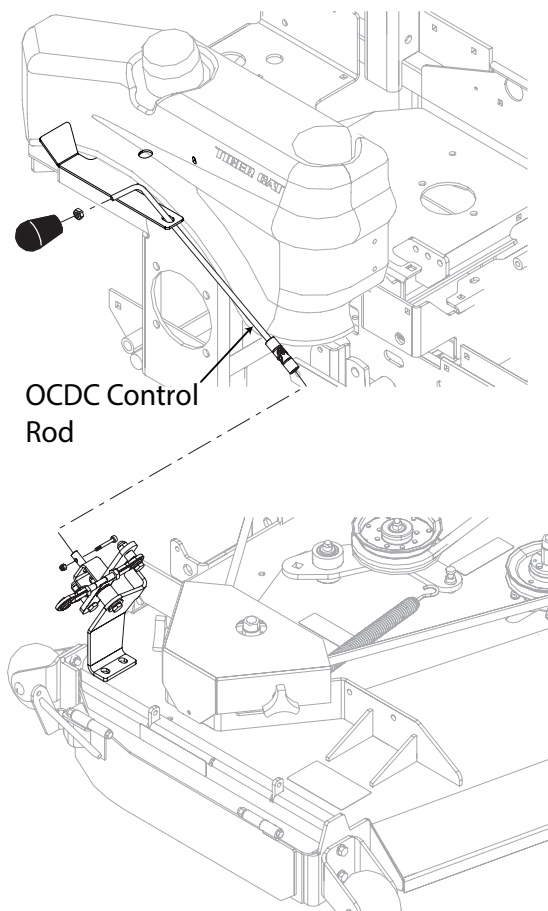

Figure 3-17. OCDC Control Lever Installation
5. Install the OCDC control rod through the handle bracket and attach to the OCDC pivot bracket. Secure the OCDC control rod to the pivot bracket using one (1) #8-32 x 1-1/4" screw and one (1) #8-32 elastic stop nut. See Figure 3-17, Page 14. Tighten the hardware.
6. Install the jam nut and the OCDC handle knob to the control rod. See Figure 3-17, Page 14. Tighten the jam nut.